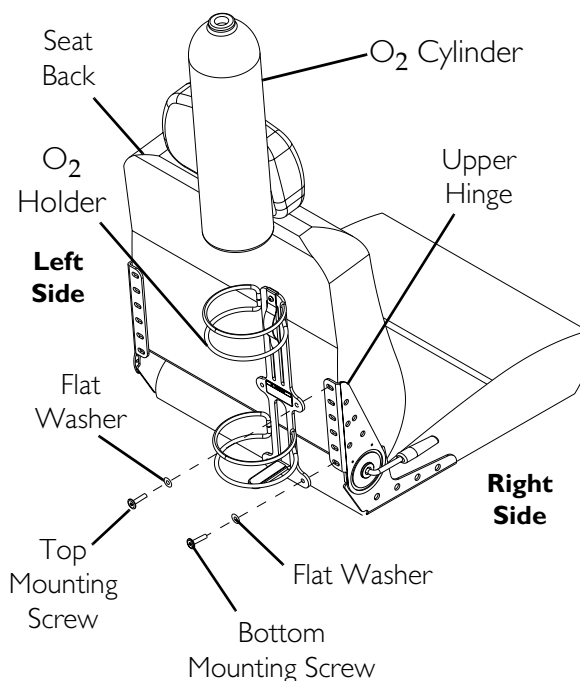

FIGURE 14.2 Installing/Removing the Oxygen Holder
NOTE: For this procedure, refer to FIGURE 14.2.
2. Align the O₂ holder mounting holes with the mounting holes in the upper hinge and seat back as shown in FIGURE 14.2.